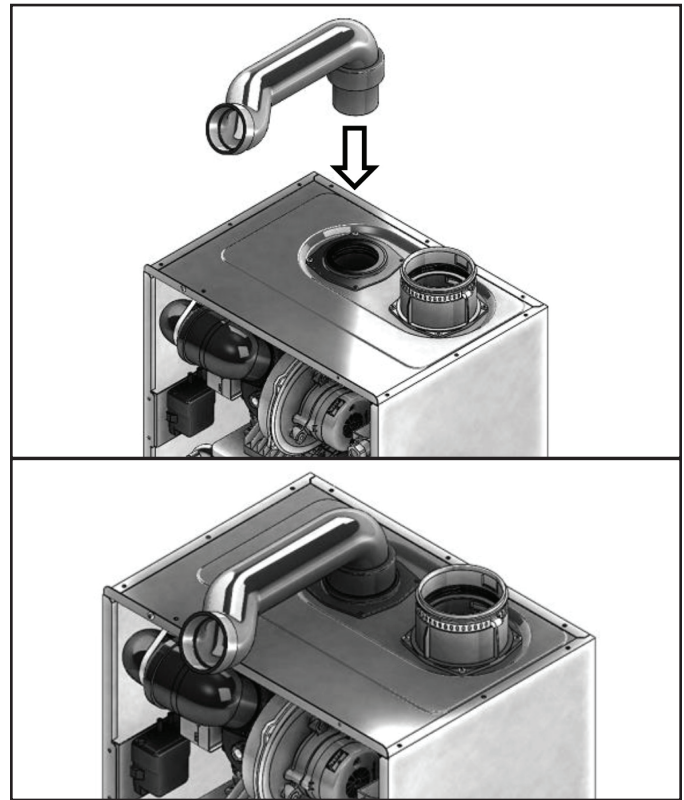

Figure 8 - Installing the Exhaust Vent Pipe
3. Install the exhaust vent pipe into the exhaust vent adapter. Ensure the pipe is positioned as shown in Figure 8.